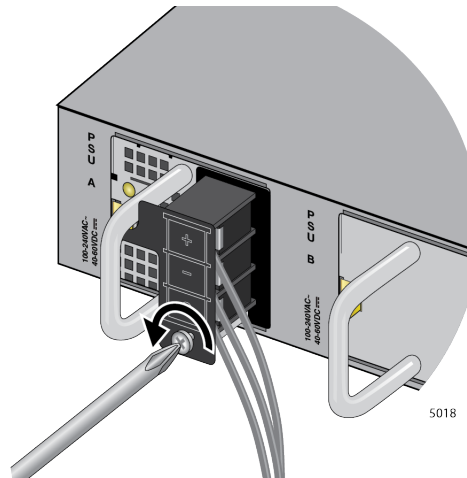

Figure 134. Loosening the Screw for the Panel
3. Loosen the screw for the connector panel with a Phillips-head screwdriver. Refer to Figure 134.